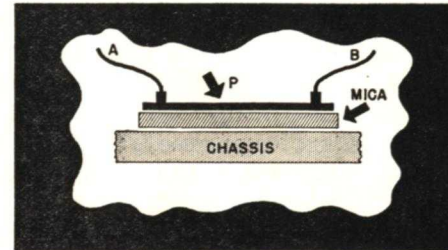

FIG. 31. How a “spark-plate” condenser is made.
► Condensers *C*₁ and *C*₂ are called “spark plate” condensers and deserve some special mention. The particular symbol used indicates that one plate of each of these condensers is the receiver chassis. As Fig. 31 shows, the other plate *P* is insulated from the
► Watch for connections like that in Fig. 31, where wire *A* ends at the condenser plate and wire *B* completes the circuit to the succeeding parts. In other words, although wire *A* ends
Ordinarily we would expect a bypass condenser to be connected as shown in Fig. 32A. Actually, however, there will be a certain amount of inductance in the wire going into the condenser (Fig. 32B). This inductance is therefore between the circuit and the condenser, and limits the effectiveness of the condenser. By bringing the circuit wire up to the condenser and continuing on as in Figs. 31 and 32C, there is no common